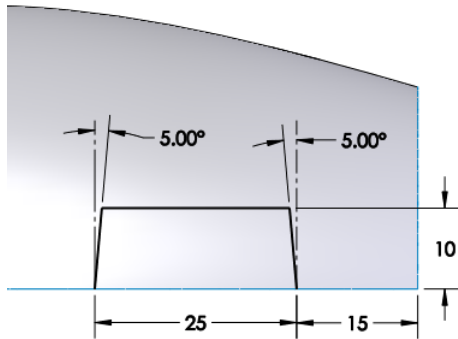

Figure 1-143 Sketch of the first section for creating the lofted surface of the handle
3. Create an open sketch, as shown in Figure 1-143, and exit the sketching environment.